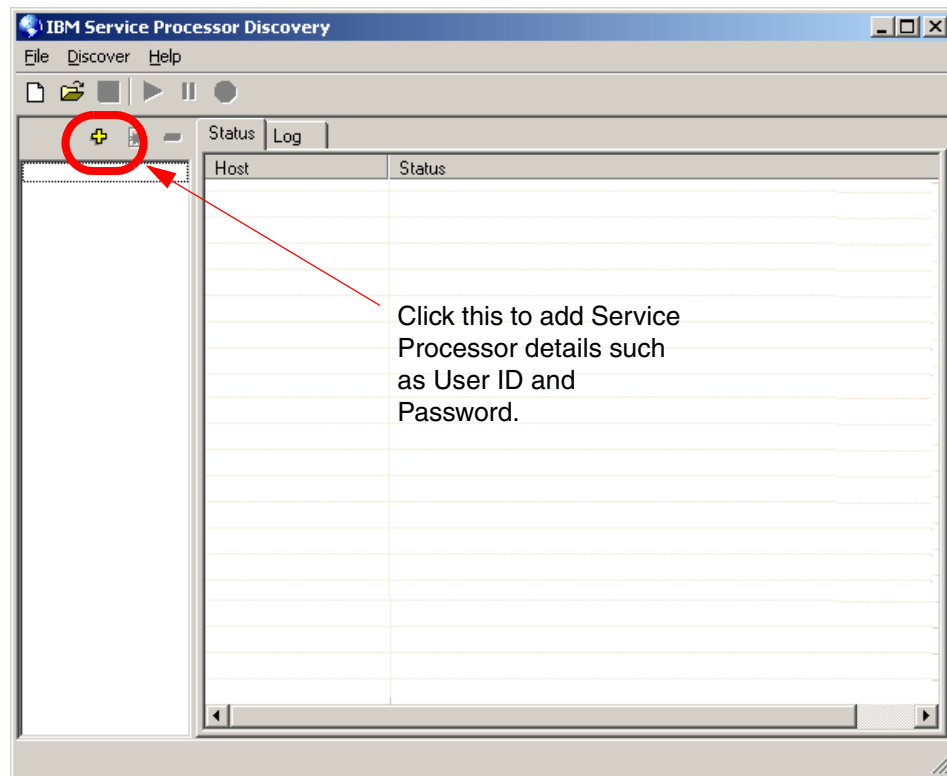

Figure 2-45 The Service Processor Discovery utility
6. From the Deployment Console's main menu, click **Tools** → **IBM Tools** → **IBM Service Processor Discovery**. This will start the utility as shown in Figure 2-45.